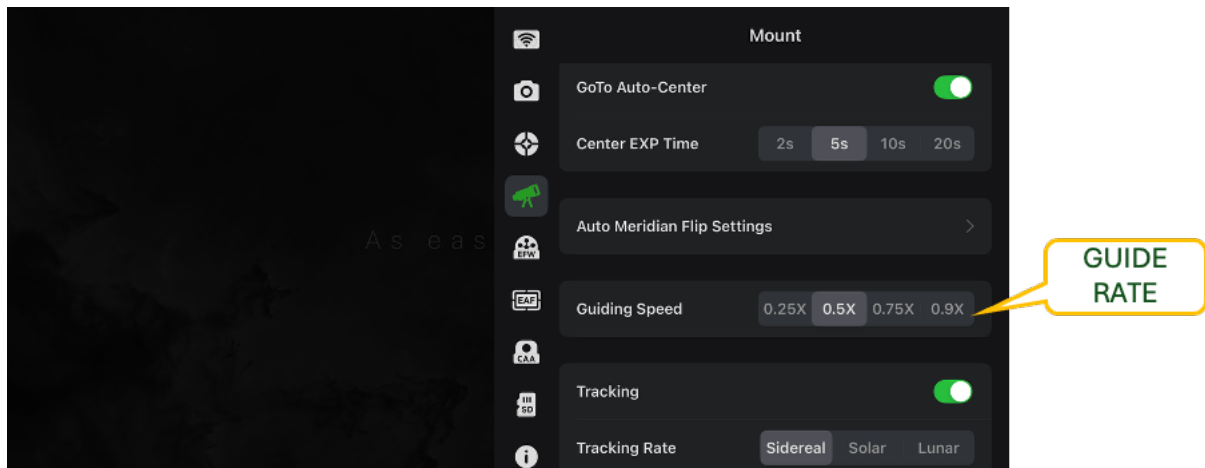

Figure 7. Autoguider guide rate
The optimum choice of guide speed (Figure 7) depends on both your mount and the image scale of the guide scope - and it’s not particularly critical. The guide rate should be fast enough to respond to tracking errors quickly, but not so fast that the mount overcompensates and overshoots or worse, starts to oscillate and does not settle. A good value to start with is 1.0X. which should be fine for most with guider focal lengths up to 1000mm. It may be desirable to reduce this when using extremely long guider focal lengths – for example at 3000mm I use 0.5X. The guide rate also affects how quickly the guider will calibrate (section 11.17).
- Do likewise for the guide camera (figure 7).
e) On each camera start with a gain set to Medium (M) in the middle of the slider.